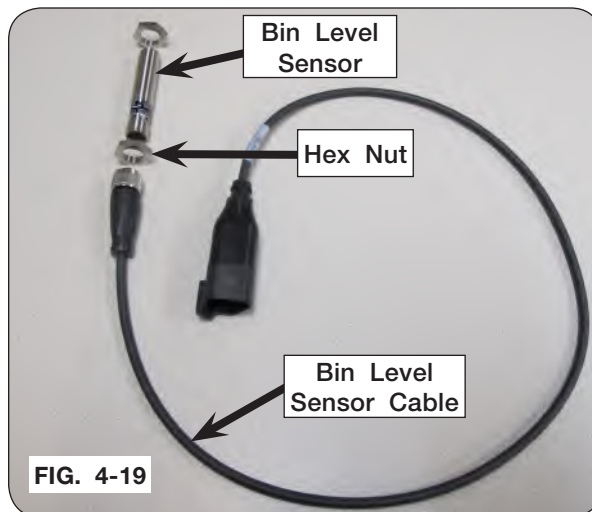

FIG. 4-19
NOTE: Fiber washer (9008810) is not shown in Figure 4-19.
2. Remove previous bin level sensor body and hardware from the Tri-Force/Quad-Force box. (FIG. 4-19)
1. Remove O-ring from cap assembly. (Fig. 4-19)
2. Secure the cartridge in vise by the hex on cap and remove cartridge barrel using spanner wrench. Position spanner wrench on cartridge barrel in hole set closest to cap (FIG. 4-19)